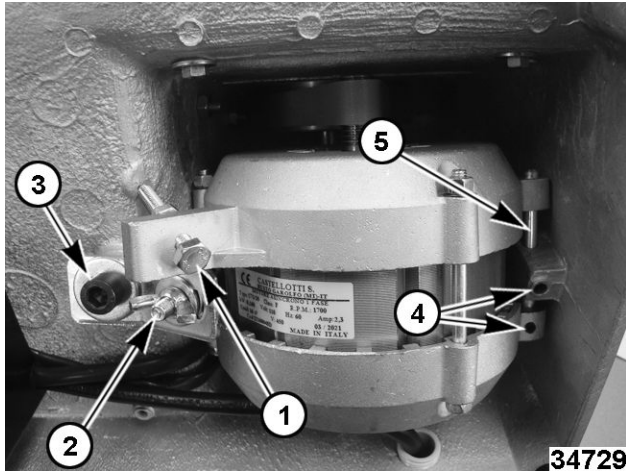

Fig. 42
5. Loosen the jam nut and thread out the stop screw (1, Fig. 42) away from the slicer housing.
6. Loosen the pivot pin set screws (4, Fig. 42).
8. Turn the tensiometer wing nut (2, Fig. 42) to adjust belt tension.
10. Turn the stop screw (1, Fig. 42) clockwise until it makes solid contact with the slicer base.
12. Tighten the pivot pin set screws (4, Fig. 42).